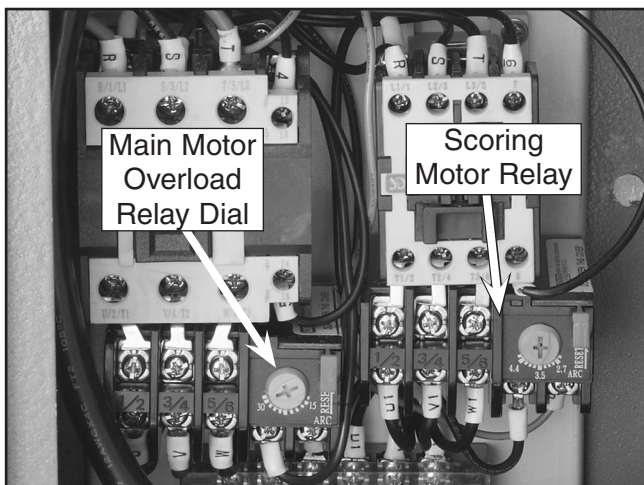

Figure 9. Motor overload relays.
4. Turn the dial (**Figure 9**) on the main motor overload relay to 15A.